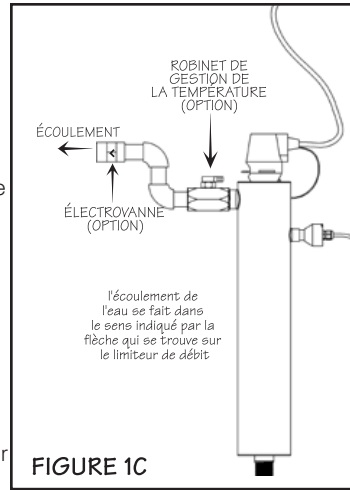

FIGURE 1C
3. Mount the system to the wall using the supplied clamps. Various connection methods can be used to connect the water source to the system, however union type connectors are recommended. The use of a flow restrictor device is strongly recommended when installing your system in order to maintain the manufacturers rated flow rate. The flow restrictor should be installed on the outlet port and is designed to be installed in one direction only. Ensure that the flow of the water matches the flow direction as indicated on the flow restrictor (Figure 1C). DO NOT SOLDER CONNECTIONS WHILE ATTACHED TO THE SYSTEM AS THIS COULD DAMAGE THE O-RING SEALS.